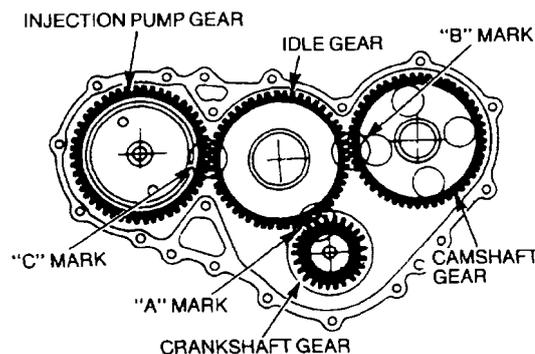

Figure 55 Aligning the Gear Timing Marks
- jjj. Ensure that the timing marks are aligned as shown in Figure 55. Lock the flywheel to prevent it from turning and tighten the camshaft drive gear retaining bolt to 123 to 152 N.m (90 to 112 lbf.ft).